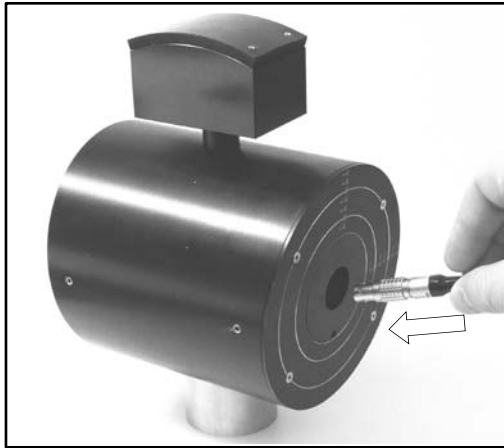
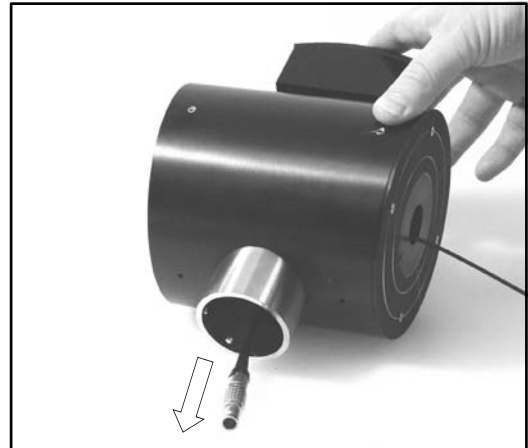

Fig. 4.4
Fig. 4.5
3. Pass the amplifier's LEMO plug end through the side of the head (fig. 4.4) until it drops through the tube (Fig. 4.5).